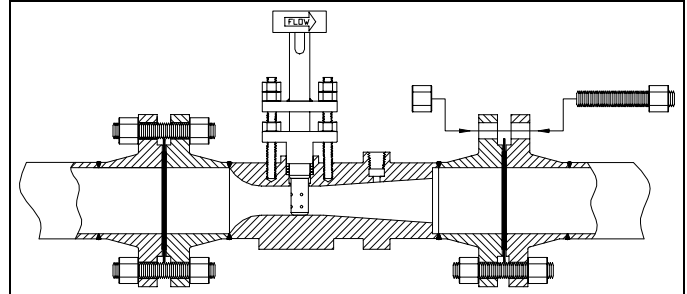

Figure 4. In-Line Accelabar
- Place the appropriate spiral-wound stainless steel gasket between the pipe flanges and the Accelabar flanges (see Figure 4).